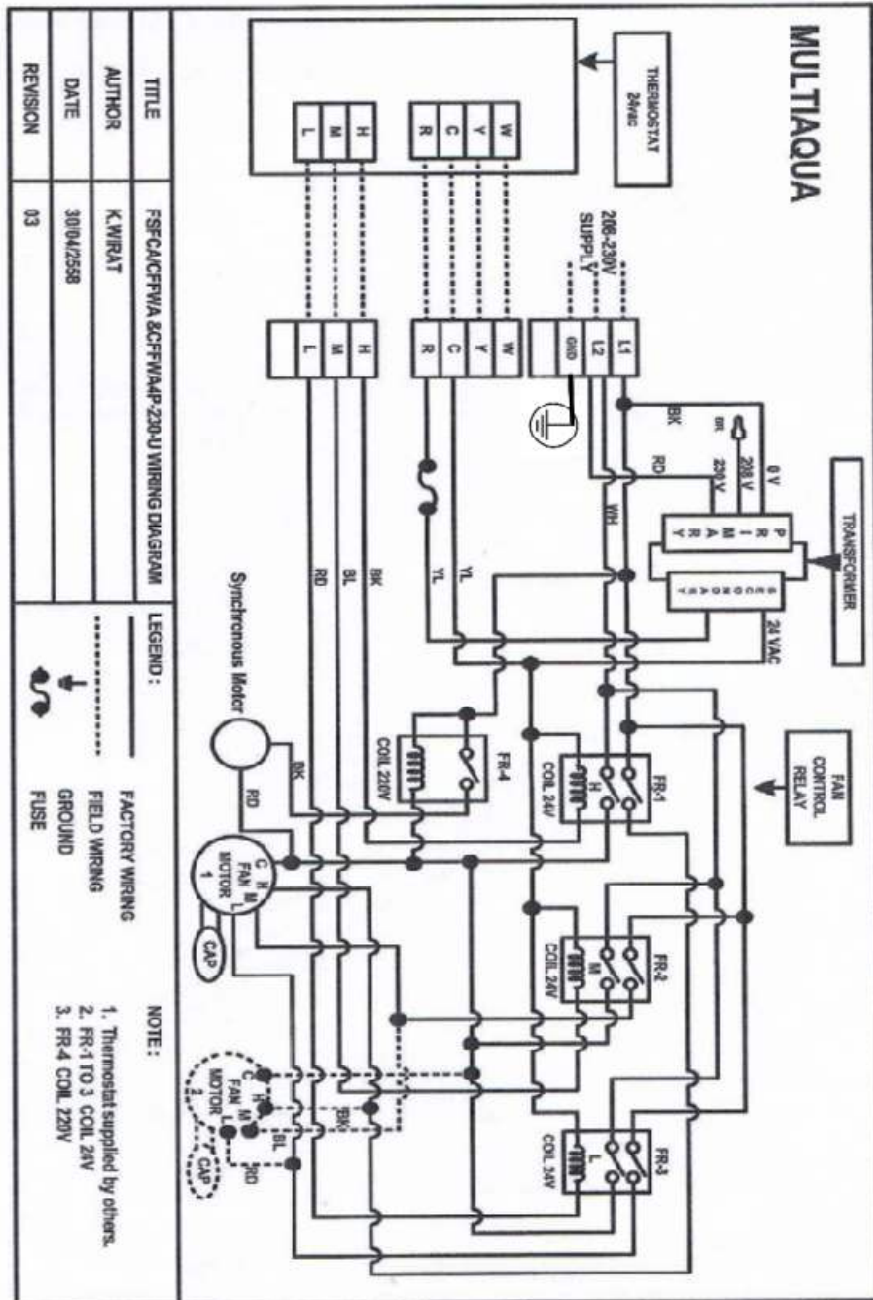

Figure 20
- (4) The condensate drain is located behind the lower right-hand side of the return grille. See figure 20
- (5) The drain line has a $\frac{3}{4}$ " soft vinyl pipe for drain connection with a mechanical fitting. Follow prevailing codes for condensate drain installation.
- (6) Ensure the condensate line is insulated properly to safeguard against sweating and leaking into the unit or the surrounding structure.